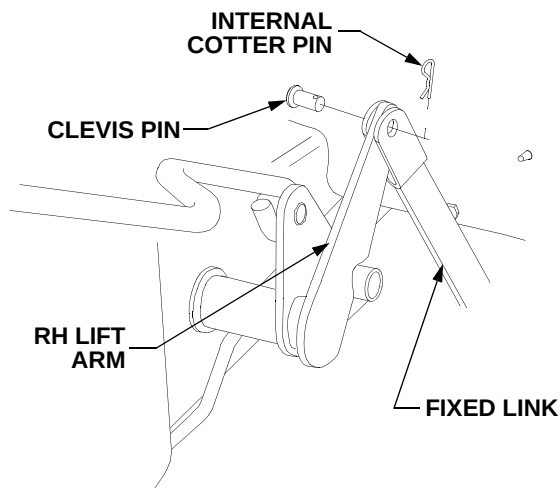

Figure 57
- Disconnect the fixed link from the RH lift arm by removing the internal cotter pin and clevis pin. Reinstall the clevis pin and internal cotter pin in the fixed link to avoid their loss. See Figure 57.
- From the right side of the tractor, grasp the fixed link and make certain it is clear of the right lift arm. Refer to Figure 57.
- Slide the fixed link of the deck over the RH lift arm. Align the holes, insert the clevis pin, and secure with the internal cotter pin (Refer to Figure 57).